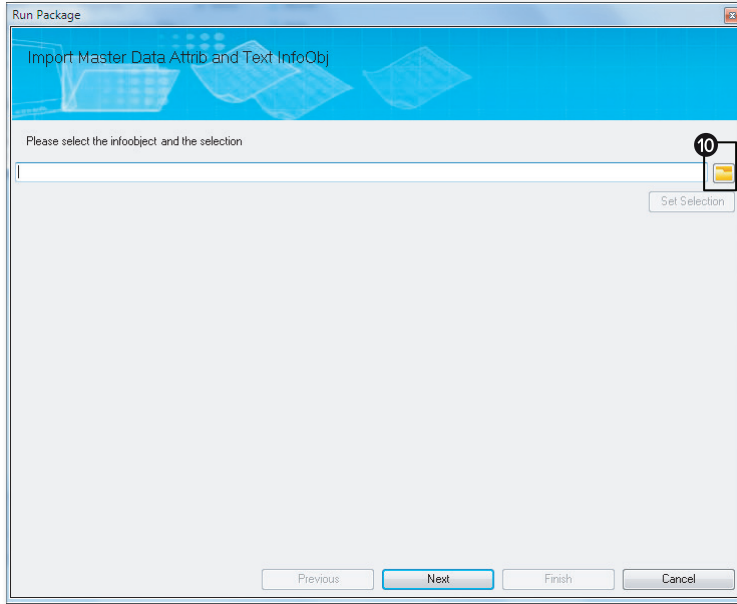

Figure 4.34 Loading Data from an InfoObject into a Dimension—Part D
10. In the RUN PACKAGE dialog box, click on the SELECT button to select the source InfoObject for loading the data (Figure 4.34, 10).